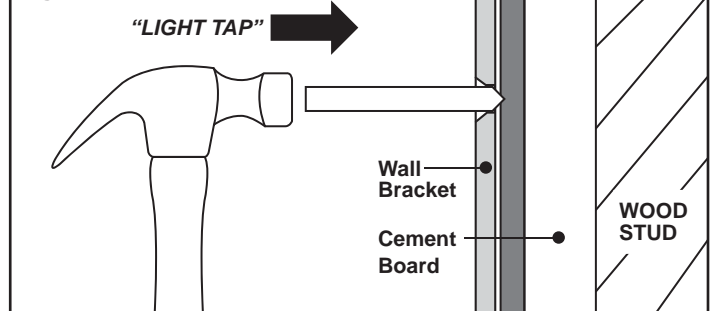

Figure 3.
**A3.** Drill hole for appropriate fastener as shown in **Figure 3**. Clear away debris from hole that could interfere with the seat sitting flush with the wall.